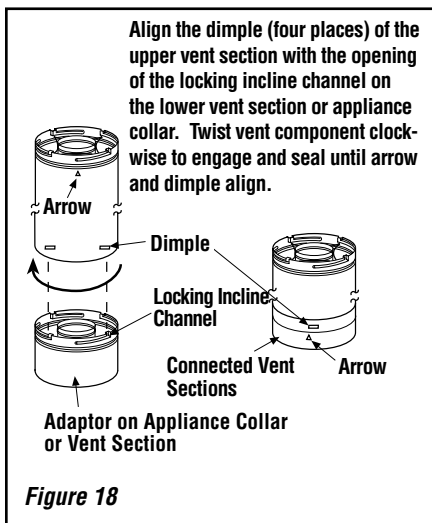

Figure 18
B. Attach adaptor (with probe) to appliance collar. Secure Vent® SV4.5 direct-vent system components are unitized concentric pipe components featuring positive twist lock connections (*see Figure 18*).
To attach a vent component to the adaptor on appliance collar, align the dimpled end over the adaptor collar, adjusting the radial alignment until the four locking dimples are aligned with the inlet of the four inclined channels on the collar (*refer to Figure 18*). Push the vent component against the collar until it fully engages, then twist the component clockwise, running the dimples down and along the incline channels until they seat at the end of the channels.
Push the vent component against the previous section until it fully engages, then twist the component clockwise running the dimples down and along the incline channels until they seat at the end of the channels. **This seating position is indicated by the alignment of the arrow and dimple as shown in Figure 18.**
F. Change vent direction to horizontal/inclined run. At transition from or to a horizontal/inclined run, install the SV4.5 E45 and SV4.5 E90 elbows in the same manner as the straight vent sections. The elbows feature a twist section to allow them to be routed about the center axis of their initial collar section to align with the required direction of the next vent run element. **Twist elbow sections in a clockwise direction only so as to avoid the possibility of unlocking any of the previously connected vent sections (*see Figures 18 and 20*).**
Secure Vent® SV4.5 direct-vent system components are unitized concentric pipe components featuring positive twist lock connection, (refer to **Figure 18 on Page 18**). All of the appliances covered in this document are fitted with collars having locking inclined channels. The dimpled end of the vent components fit over the appliance collar to create the positive twist lock connection.
To attach a vent component to the appliance collar, align the dimpled end over the collar, adjusting the radial alignment until the four locking dimples are aligned with the inlets of the four incline channels on the collar (refer to **Figure 18 on Page 18**).
Other vent sections may be added to the previously installed section in accordance with the requirements of the vent tables. To add another vent component to a length of vent run, align the dimpled end of the component over the inclined channel end of the previously installed section, adjusting the radial alignment until the four locking dimples are aligned with the inlets of the four incline channels of the previous section. Push the vent component against the previous section until it fully engages, then twist the component clockwise running the dimples down and along the incline channels until they seat at the end of the channels. **This seating position is indicated by the alignment of the arrow and dimple as shown in Figure 18 on Page 18.**
At transition from or to a horizontal/inclined run, install the SV4.5E45 and SV4.5E90 elbows in the same manner as the straight vent sections. The elbows feature a twist section to allow them to be routed about the center axis of their initial collar section to align with the required direction of the next vent run element. **Twist elbow sections in a clockwise direction only so as to avoid the possibility of unlocking any of the previously connected vent sections (see Figures 18 and 20 on Page 18).**